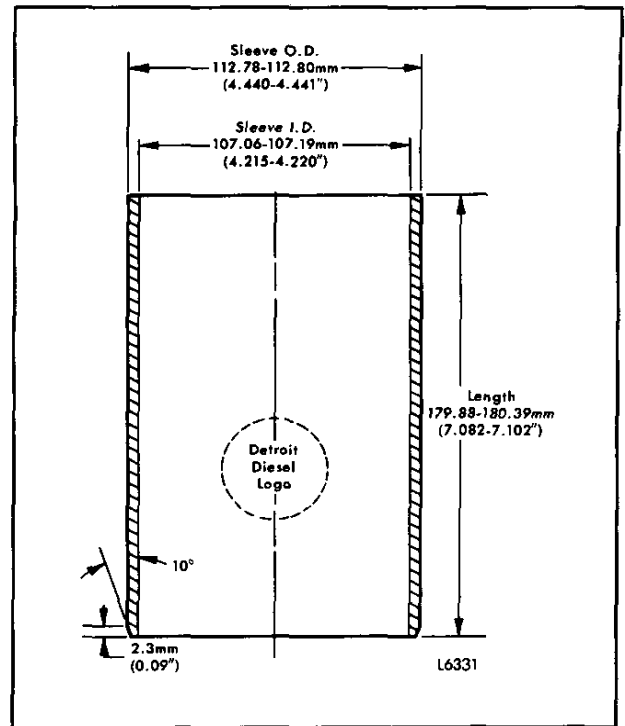

Fig. 8 - Dimensions After Cut
2. Cut the sleeves to the length shown in Fig. 8. Cut stock from the end marked by yellow paint. Do not cut from the end with 10° lead in chamfer.